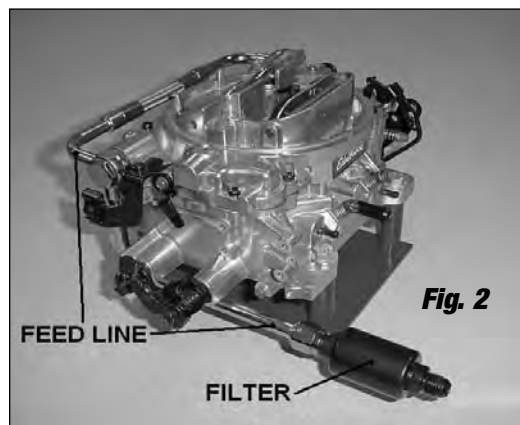

Fig. 2
- 8a. Install supplied Russell carburetor fuel feed line using supplied banjo bolts and washers (**See Fig. 2**).
- 8b. Install small Edelbrock filter onto feed line inlet (**See Fig. 2**).